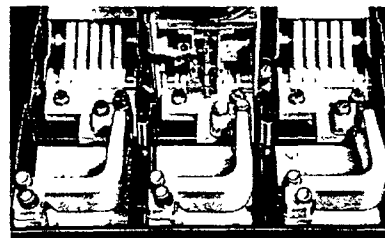

Fig. 2. Straps in position
- c. Unscrew the round-head screws (4) supporting the trip unit.
3. Non-Automatic Trip Unit Removal (Fig. 2 & 3)
- a. Remove all hex-head bolts (6) from the line end of the connection straps (3).
- b. Remove all socket-head bolts (6) and washers from the load end of the straps.
- a. Position the current carrying straps, as shown in Fig. 2, and secure them using one flat washer and one lock washer with each bolt. Install the hex bolts at the top of the straps.